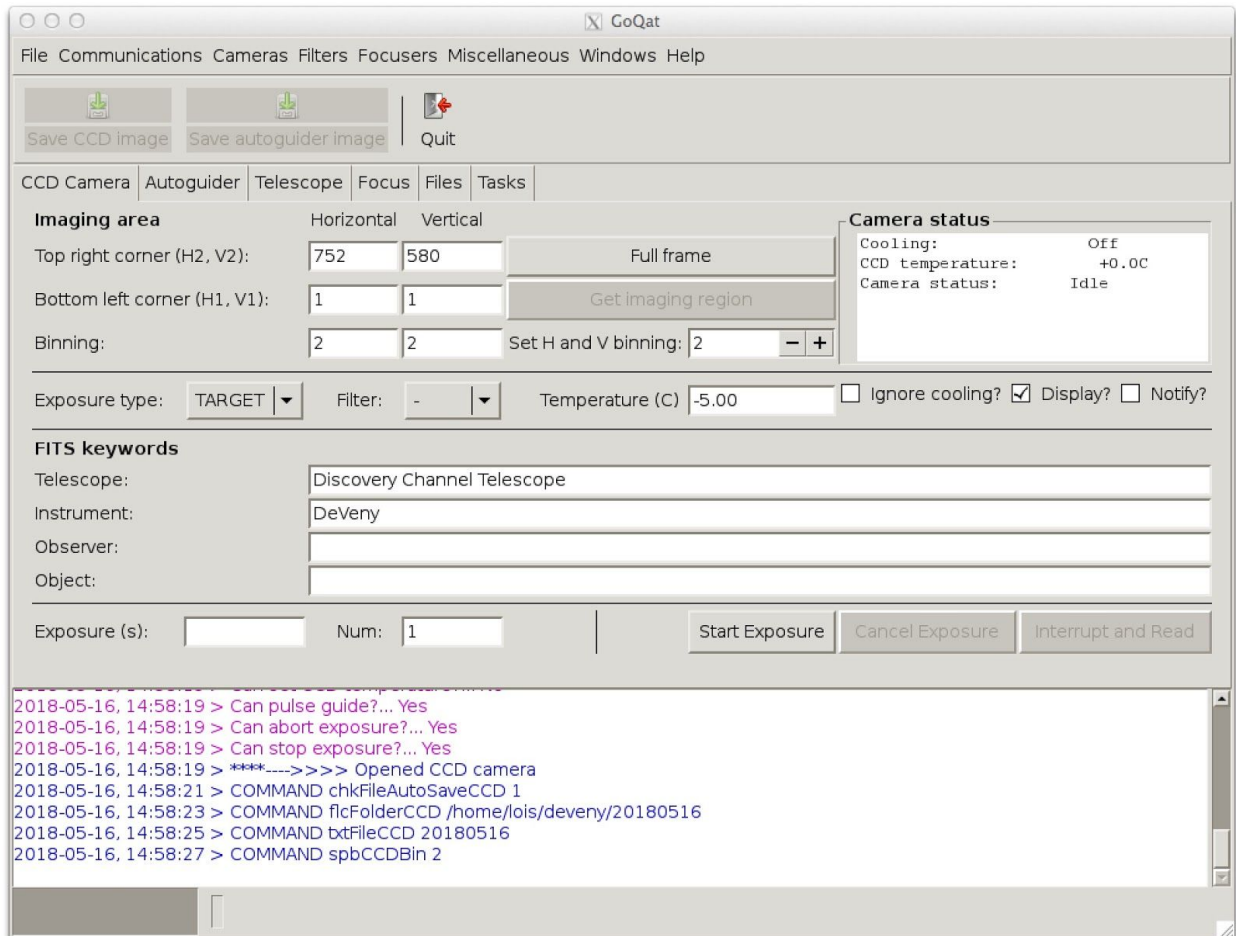

Figure 14. GoQat camera software graphical user interface, CCD Camera tab.
b. In this terminal, type `goqat.start`; this script (`/home/lois/bin/goqat.start`) will start GoQat and nominally set the following parameters automatically; verify that the commands are printed in the goqat console with no errors (as in Figure 14):